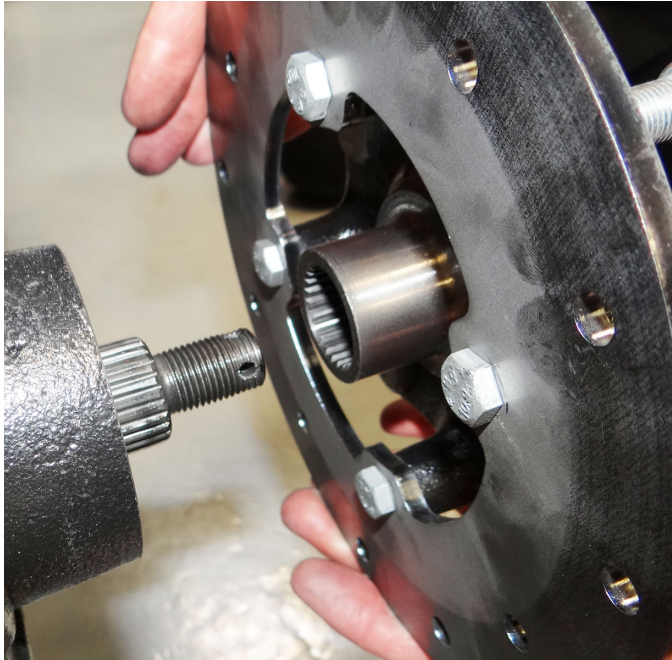

Fig. 4 Remove Hub
5. Tap the hub with a plastic hammer while applying outward pressure until the hub slides off the splines of the axle (Ref. Fig. 4).